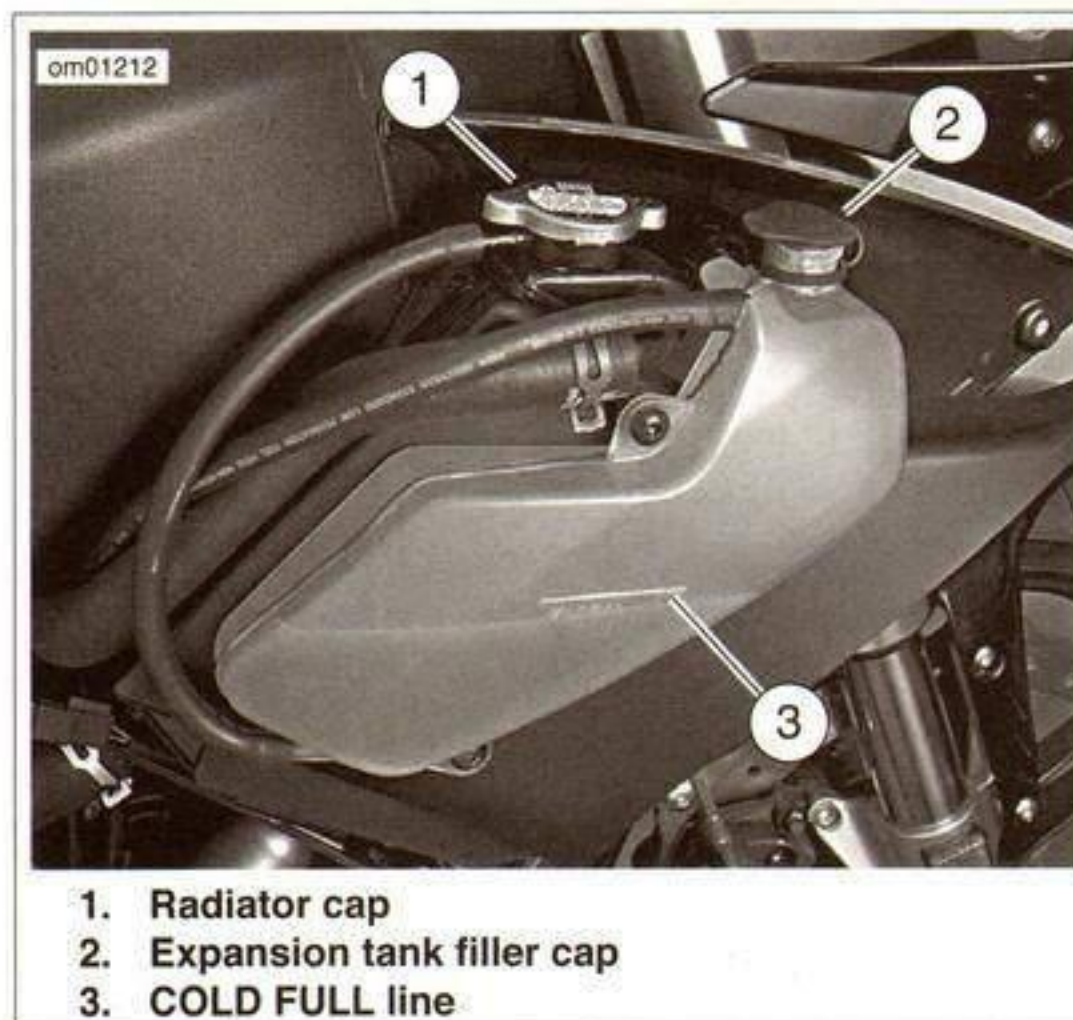

Figure 1-54. Coolant Expansion Tank
2. See Figure 1-54. Check coolant level in expansion tank with coolant cold and motorcycle on its sidestand.